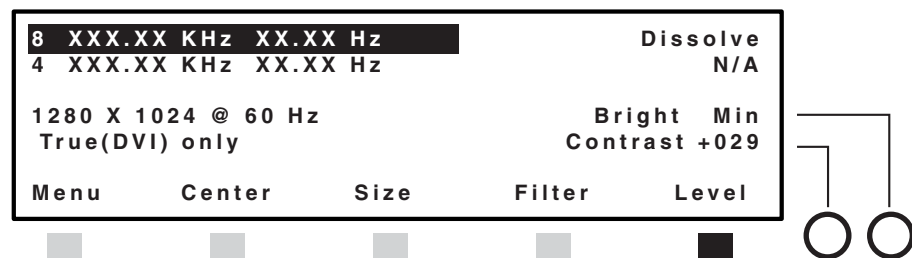

Figure 3-29 — Adjusting contrast and brightness
1. From the default screen, press the Level button (figure 3-29). The preview input is highlighted.